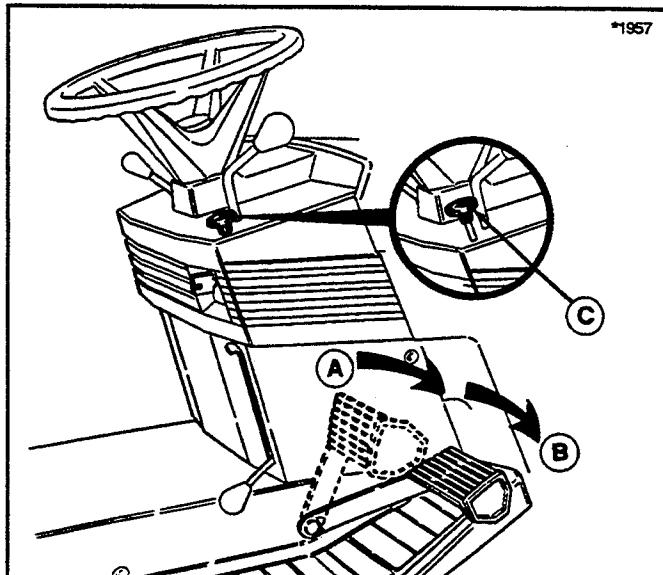

Figure 11. Clutch/Brake Pedal and Parking Brake
1. See figure 11. Depressing the pedal from position A to B disengages the transmission drive, applies the
2. Parking brake is applied at pedal position B when parking brake control knob (C, figure 11) is pulled up with pedal fully depressed.